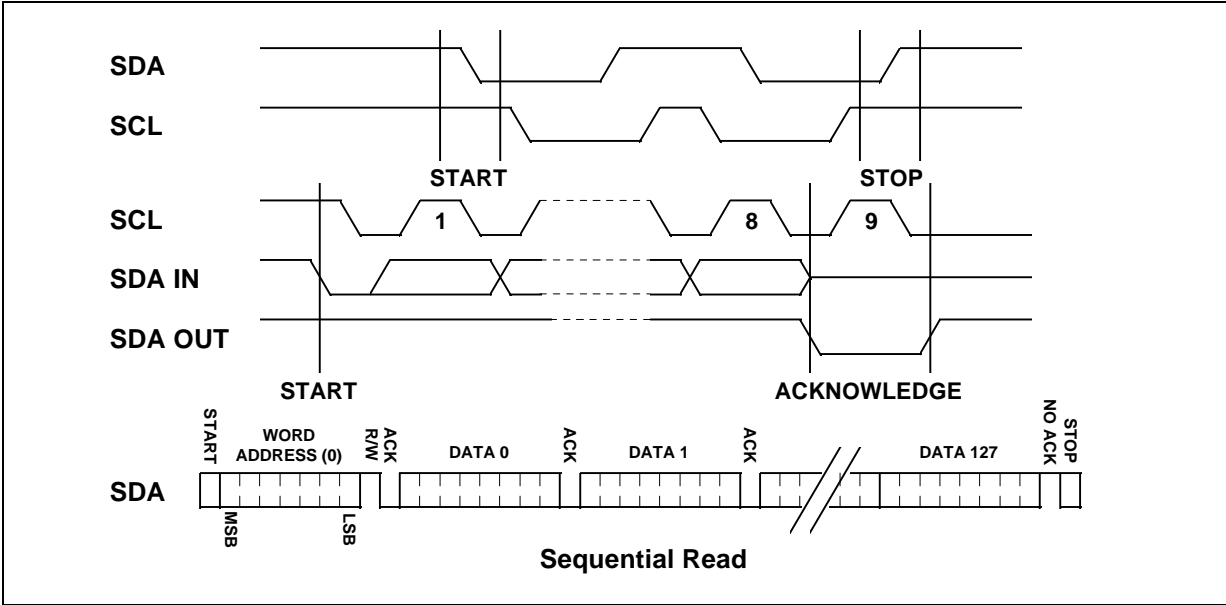

Figure 7.4 EEPROM Timing Diagram
Refer to Figure 7.4, a sequential read is initiated by the W99681CF with a start condition followed by a 7-bit data word address (always 0) and a high read bit. The E2PROM will respond with an acknowledge and then serially output 8 data bits. After the W99681CF receives an 8-bit data word, it responds with an acknowledge. As long as the E2PROM receives an acknowledge, it will continue to increment the data word address and serially clock out sequential data words. The sequential read operation is terminated when the memory address limit (TL) is reached and the W99681CF does not respond with an acknowledge but does generate a following stop condition.